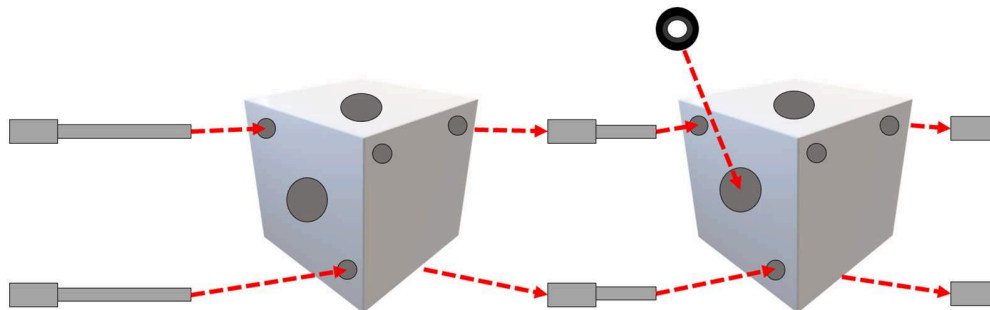

Figure 2. Connection of purge solenoid valve to the first solenoid valve
- 4.3 Place the rubber o-ring in the larger opening of the solenoid valve (Figure 2) and then carefully place the first solenoid valve over the purge making sure to guide the screws through the holes on the first solenoid valve.